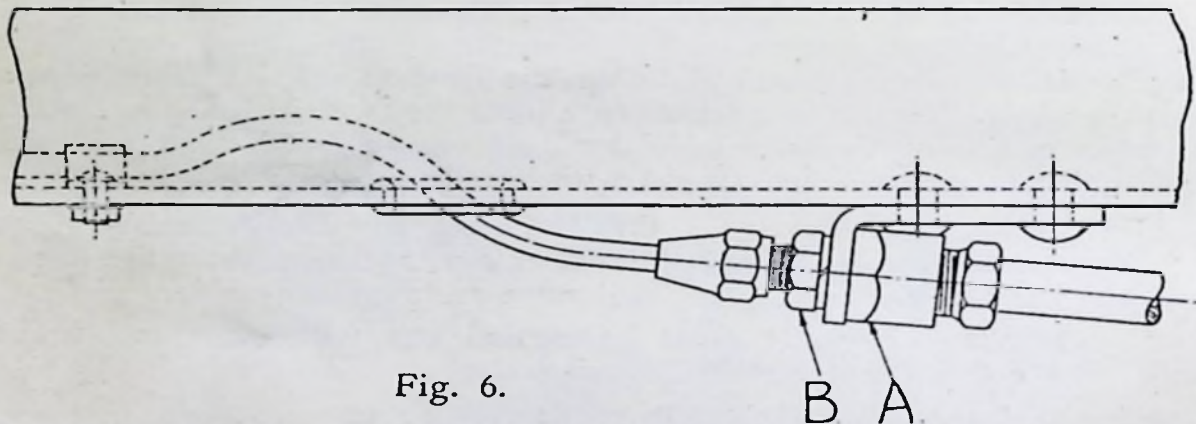

Fig. 6.
**REMOVING FRONT WHEEL CYLINDER (Internal).** It is advisable not to unscrew the flexible hose at either end. Proceed, therefore, as follows: Disconnect copper tubing from the hose union (A, Fig. 6) at the frame, then remove the nut and lock washer (B), when the hose union may be removed from the bracket. Unhook the brake shoe return spring. Removal of the two set-screws holding the cylinder to the back plate allows the cylinder to be withdrawn with the hose in place.